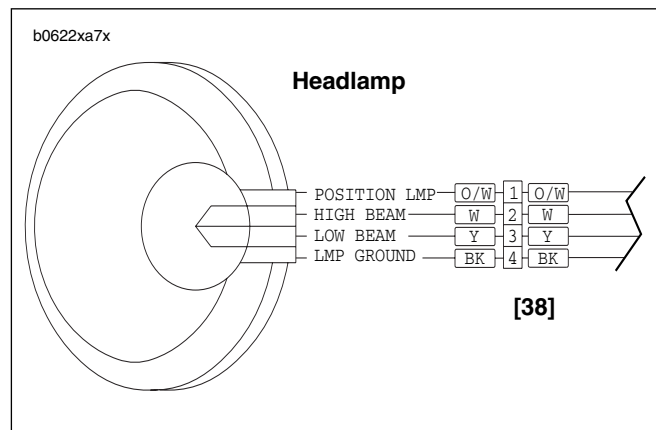

Figure 7-38. Headlamp Connector [38]
3. See Figure 7-38. Cut as many cable straps as necessary to access headlamp connector [38] along right side frame tube. Detach connector [38] from wiring harness.
2. See Figure 7-38. Route headlamp wire harness between front forks and along right side frame tube. Attach connector [38] to wiring harness. Fasten wiring harness to frame with new cable straps.